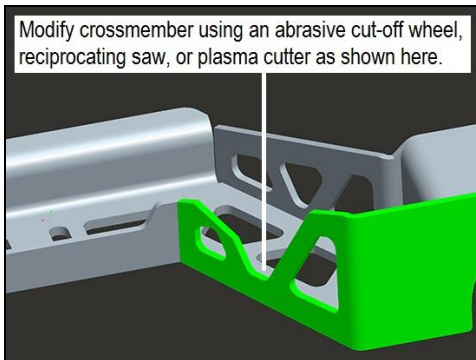
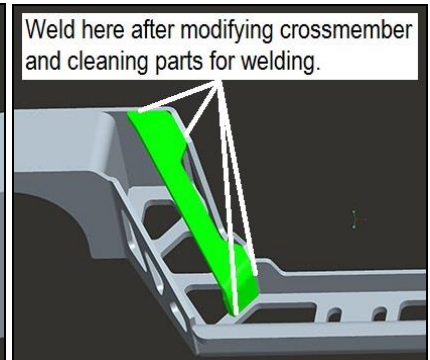

Figure 4
Figure 6
2. If you are using this adapter kit to install a 2004R into a 1st-gen F-body or 3rd-gen X-body using the Hooker 12626HKR T56 crossmember, modify/cut the inside left upright wall of the crossmember to match what is shown in **Figures 4 and 5** below. Once modifications are complete, clean parts and weld them together using either a MIG or TIG welder, as indicated in **Figure 6** below and spot-paint as desired to match. Install the crossmember per the instructions contained in its packaging while installing the spacer block included in this kit between the crossmember and transmission isolator; use the included long fasteners to attach the transmission mount to the crossmember.